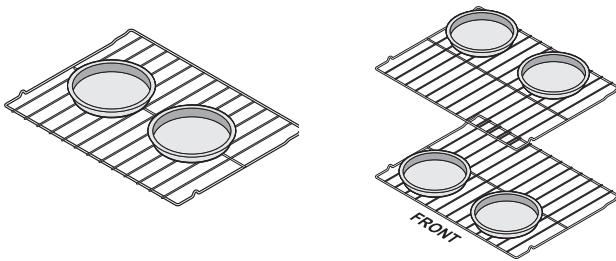

Figure 8: Pan spacing suggestions
- For best results when baking cakes using two oven racks, place racks in positions 2 and 4.(Figure 8).